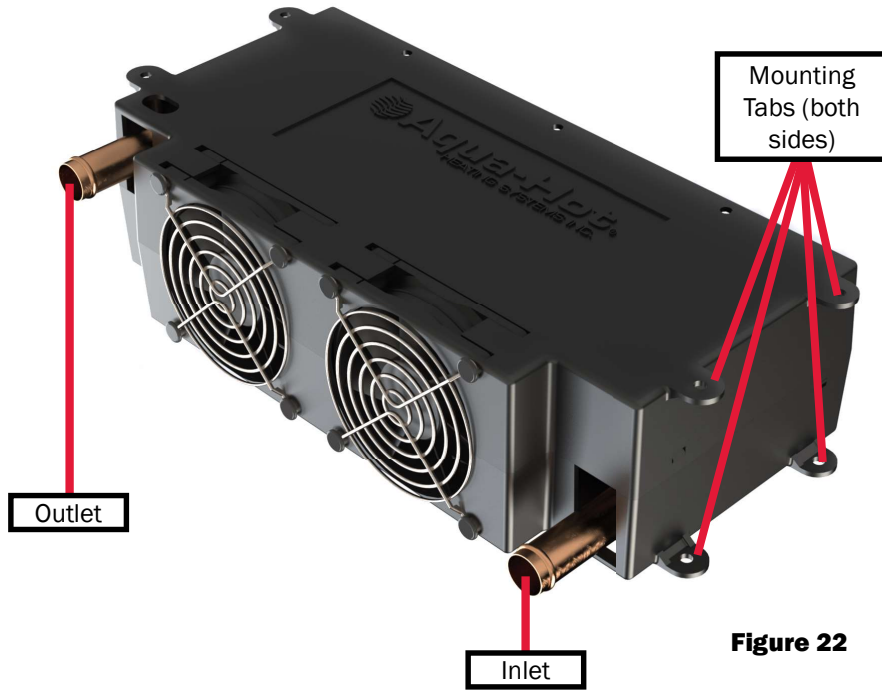

Figure 22
- The antifreeze and water heating solution must flow in through the bottom of the heat exchanger, and out the top (reference Figure 22).
2. Mount each heat exchanger permanently into place. There are 4 tabs on both sides - see Figure 22.